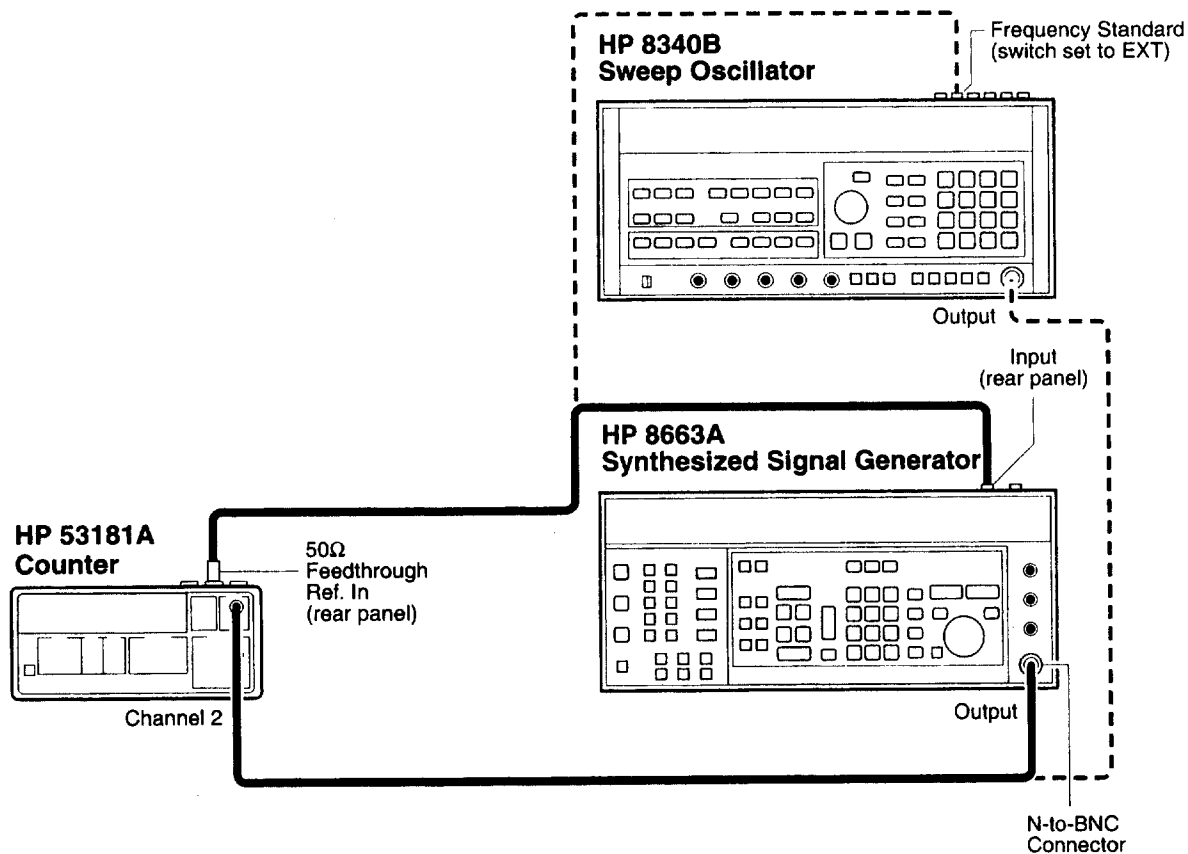

Figure 1-14. Option 015/030/050 Channel 2 Frequency Test
- 1 Set the HP 8663B Synthesized Signal Generator to output a 500 MHz, -60 dBm sine wave and connect the signal to Channel 2 of the Counter as shown in Figure 1-14.
- 1 Set the HP 8663B Synthesized Signal Generator to output a 500 MHz, -60 dBm sine wave, and connect the signal to Channel 3 of the Counter as shown in Figure 1-14.**
- 1 **Disconnect the HP 8663A Synthesized Signal Generator from the Counter (see Figure 1-14), and connect the HP 8340B Sweep Oscillator to Channel 3 of the Counter.**